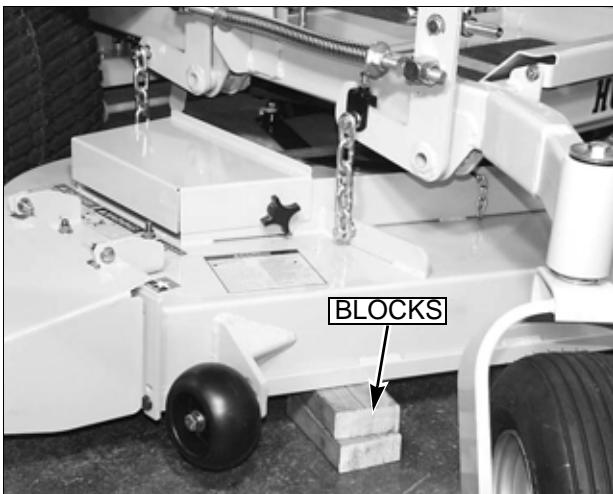

FIG. 61
3. Raise deck and place 3" of blocking under all 4 corners of the deck (FIG. 61). This will set the cutting height at 3 1/2". **NOTE:** Back of deck will automatically be set 1/4" higher.